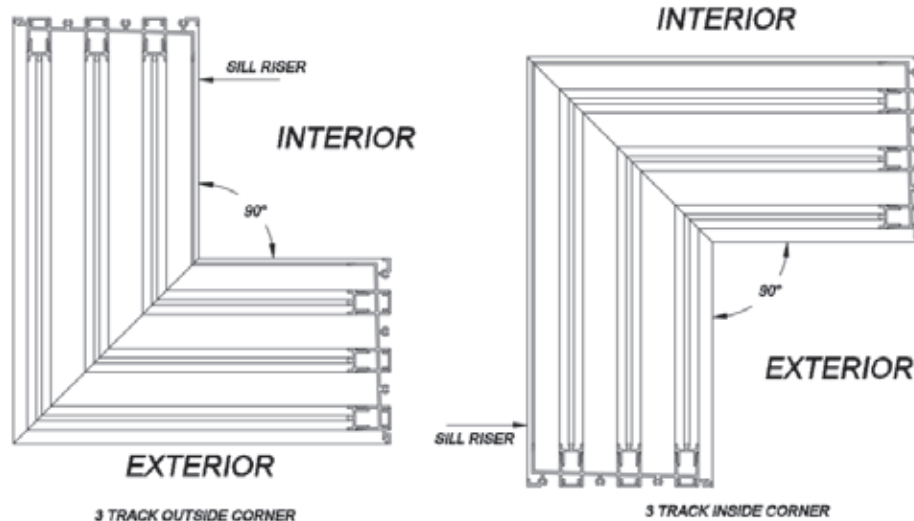

Figure 31
- 1. Determine** whether the unit is an outside or inside corner using the sill riser as a guide and verify that the frame is facing the correct exterior direction. The sill riser will always remain facing the interior of the opening (Figure 31).